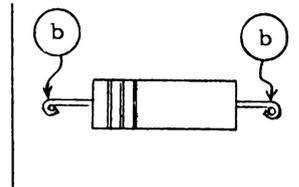

Figure 3-5
- (c) Center the new component on the old leads using a mechanical wrap to secure the component while soldering (b, Figure 3-5.)